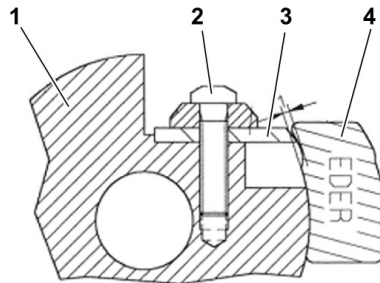

Figure 12: Knives change at the disc mills
- > Lightly loosen the knife screw (2 – Fig.12).
- > Apply the knife's apprenticeship (4 – Fig.12) to the milling head (1 – Fig.12) and slide the knife (3 – Fig.12) towards the knife's apprenticeship until it touches the notched area.